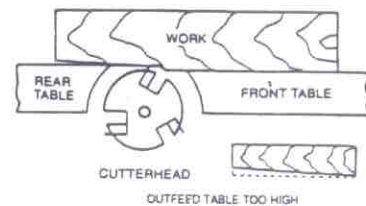

**Fig. 21**
7. If blade is higher or lower at the left of the table than it is at the right, slightly loosen four screws (A, Fig. 21) by turning clockwise as viewed from the infeed table. To lower the blade, carefully push down on the blade with a block of wood. To raise the blade, carefully lift each end of the blade. **Blades are set at the proper height when the top of the blades are 1/16" above the cutterhead.** Alternately tighten four screws to hold each blade in place.